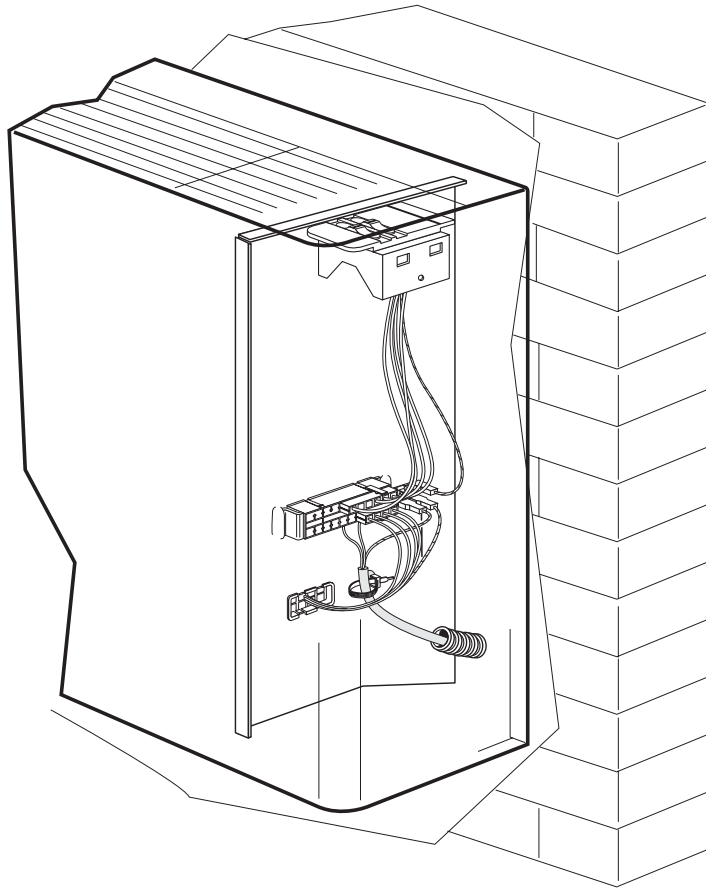

Fig. 7
- remove the screw (1) securing the control panel (2) to the right side of the unit, then remove it after electrical disconnection;
- remove the coil cover sheet (4) by removing the screws;
- remove the screws securing the coil (5), then remove it;
- remove the push-outs (6) on the right side;
- rotate the coil (5), then secure it in the new position with the screws previously removed;
- remount the coil cover sheet (4) and secure it with screws, then insert the plastic plugs (7) supplied in the openings left free by the hydraulic connections; all trays are designed to collect condensate on both sides. In the case of vertical installation, for condensate drainage on the right side, position the drainage union to the right (8).
- to move condensate drainage to the right of the unit, reverse discharge of the tray (3) (if present), then transfer the drainage line (8) to the right;
- slide out the electrical connections from the right side, remove the push-out, then transfer the cable guide (9) from the right to the left side;
- transfer the electrical connections to the left side through the cable guide (9);
- move the terminal block (10) and the ground jumper connection (11) to the left side of the unit;
- refit the control panel on the left side, then make the electrical connections (Fig. 7);